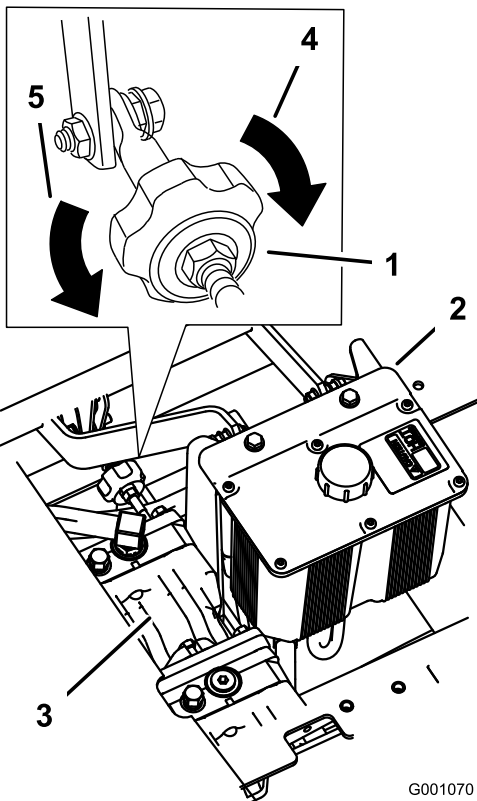

Figure 56
4. To make the machine go right, turn the knob towards the rightside of the machine. Refer to Figure 56.
5. To make the machine go left, turn the knob towards the leftside of the machine. Refer to Figure 56.